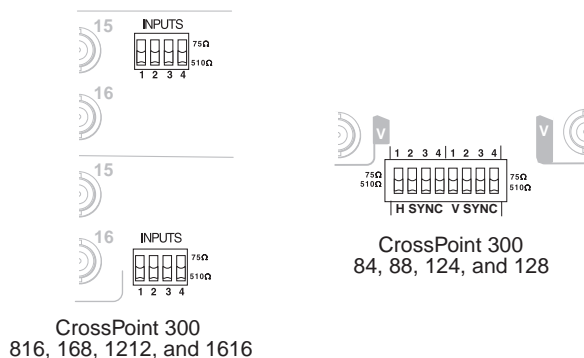

Figure 2-7 — Sync termination switches
- ⑦ **Sync termination switches** — The CrossPoint 300 matrix switchers have sync termination switches on the rear panel for inputs 1 through 4 (figure 2-7). The switches provide a way to condition non-TTL sync levels greater than 5 Vp-p, enabling the sync to be properly passed from input to selected output(s). The matrix switchers have two sets of sync termination switches; one for horizontal or combined sync and a second set for vertical sync.